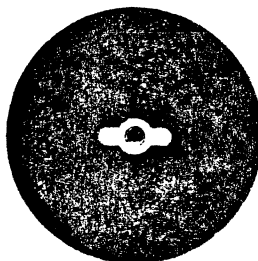

FIG. 15
a. Figure 15 shows collimation when the image of the sun is astigmatized. This method is preferable for accurate work because the symmetrical arrangement of the images makes it easier to estimate the center of the bubble.